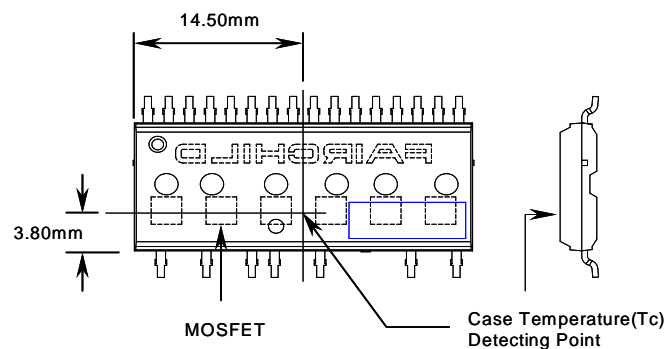

Figure 3. Case Temperature Measurement
3. Source terminal of each low-side MOSFET is not connected to supply ground or bias voltage ground inside Motion SPM® 5 product. External connections should be made as indicated in Figure 3.